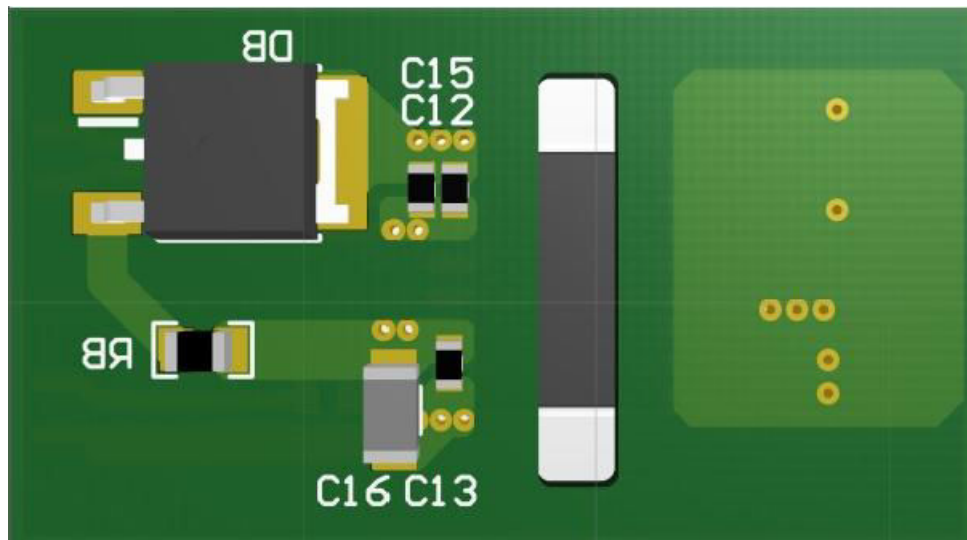

Figure 10-4. 3-D PCB Bottom View Showing Recommended Cutout
PCB traces between the high-side and low-side gate drivers in the output stage are increased to maximize the creepage distance for high-voltage operation, which will also minimize cross-talk between the switching node VSSA (SW), where high  $dv/dt$  may exist, and the low-side gate drive due to the parasitic capacitance coupling. Figure 10-4 shows a 3D view of the bottom side recommended layout, showing the board cutout.